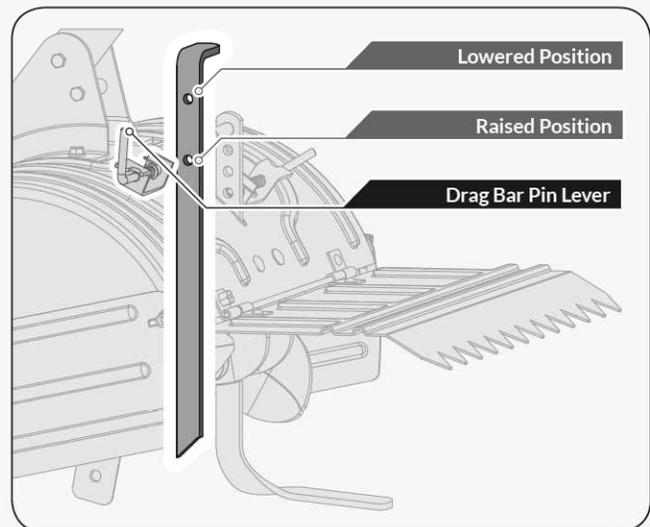

Figure 7
The drag stake (see **Figure 7**) should be raised when tilling in the counter rotating (R) till position. The drag stake should be lowered when tilling in the forward rotating (F) till position.
up for increasing tilling depth. Place depth stake pin in the hole of the depth stake to lock in position at desired depth. Lower drag stake to the "Lowered position" (See **Figure 7**) and lock it in position.